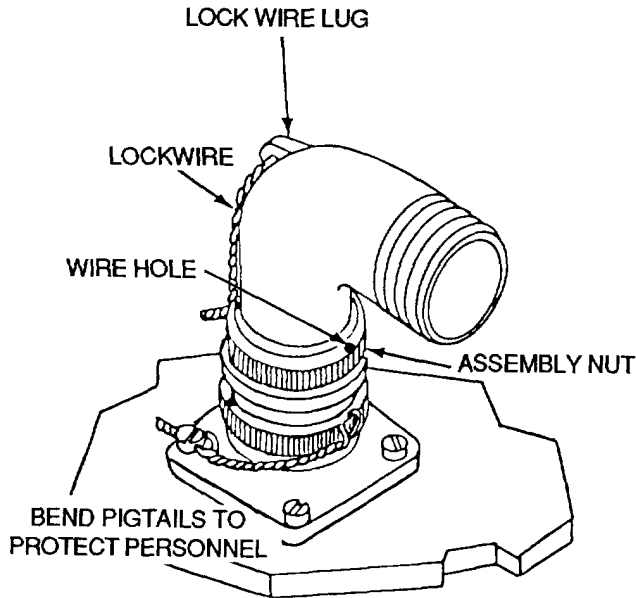

Figure 9. Lockwiring Assembly Nut Type Connectors (Typical)
22. **Assembly Nuts.** When assembly nuts are used, lockwire using double twist method from assembly nut through hole to lockwire lug on backshell (Figure 9).